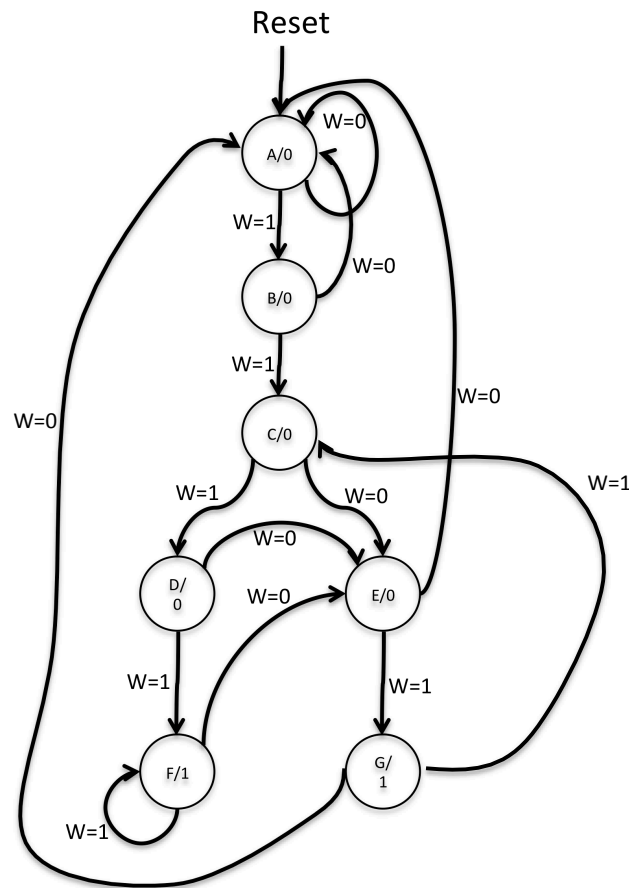

Figure 6.1: The state diagram for Robo-Snail.
Note that overlapping sequences are allowed. For example, if W is 1 for five consecutive clock pulses, then Z is 1 after both the fourth and fifth clock edge. A state diagram for this FSM's behaviour is shown in Figure 6.1.
1. Derive the state transition table from the diagram in Figure 6.1.